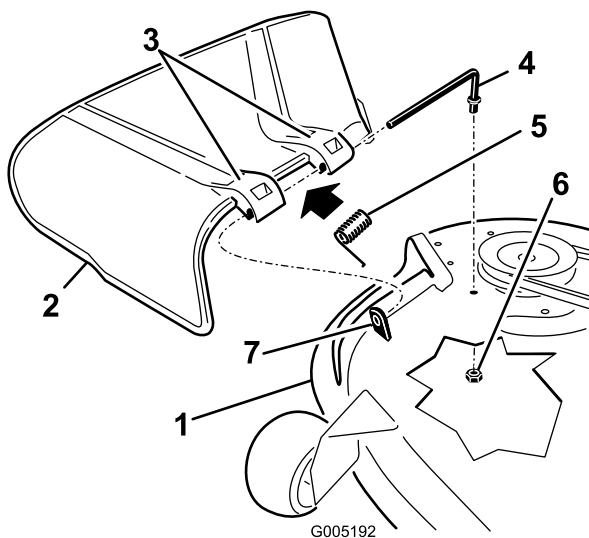

Figure 76
1. Remove the nut (3/8 inch) from the rod under the mower (Figure 76).
- Slide the rod out of the short stand-off, spring, and grass deflector (Figure 76).
- Replace the grass deflector (Figure 76).
- Slide the rod through the second grass-deflector bracket (Figure 76).
- Secure the rear end of the rod into the mower with a nut (3/8 inch) as shown in Figure 76.